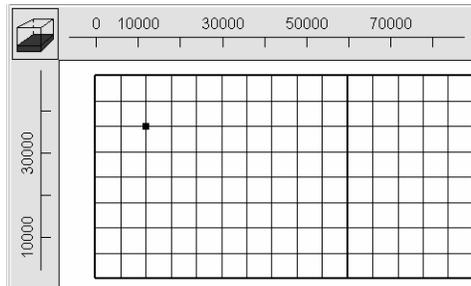

Figure 50. Point object used to specify well boundary in example 3.
- The next boundary condition is a well located at $(X, Y) = (12000, 36000)$. Make a point object on the top view of the model at that location (fig. 50). In the **Object Properties** dialog box, select the **Nodes** radio button and **Name** the object “Well.” Check the **Set values of intersected nodes** checkbox. On the **Boundary Conditions** tab, select the **Well** boundary, set the **Diameter** to 2, the **First elevation** to 90, the **Second elevation** to 110, the **Pumping rate** to 1, and the **Solution** to 1. Make sure the **Allocate by pressure and mobility** checkbox is unchecked. Click **OK** to close the dialog box.